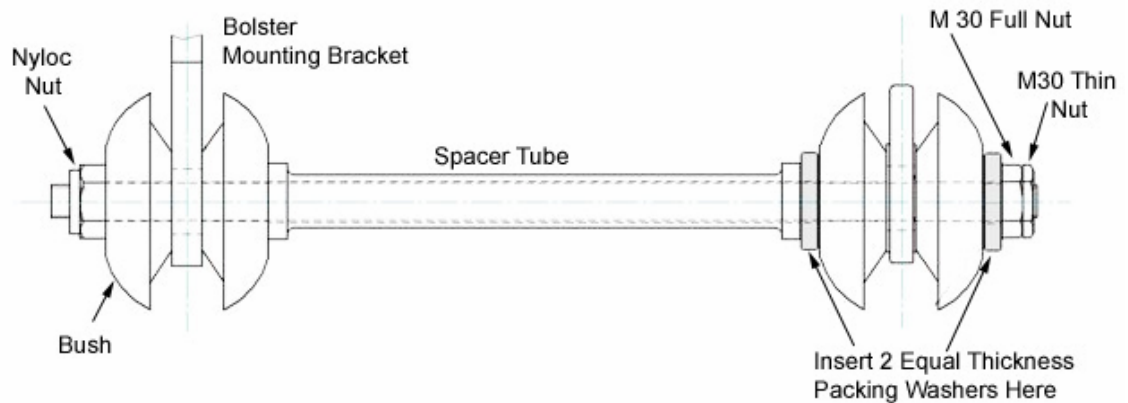

Figure 9.1: Assembly of Secondary Traction Rod
NOTE 8A: Only one packing washer should be used in each of the two locations shown in Figure 9.1.
9. Assemble secondary traction rod as follows (see Figure 9.1):